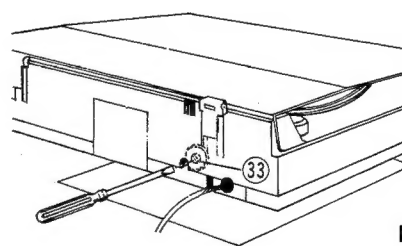

Figure 5
- 2-1. If the tonearm is above or on the turntable platter, turn the Pulley (33) counterclockwise through the hole referring to Fig. 5 with the slotted-head screwdriver (width 2.5 ~ 4 mm) until tonearm moves to its rest position.
- 2-4. Move the tonearm to the position where the Cover (10) was mounted, turning the Pulley (33) clockwise (Fig. 5).
NOTE: If the tonearm does not move by turning the Pulley (33) (Fig. 5), an additional force by finger should be added to the bended part of tonearm in the desired direction.